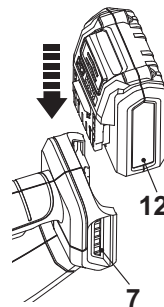

Fig. 2
1. Align the battery pack (12) with the sliding slots of the battery docking port (7) and slide the battery pack (12) in to attach it. Ensure it clicks in place (Fig. 2).